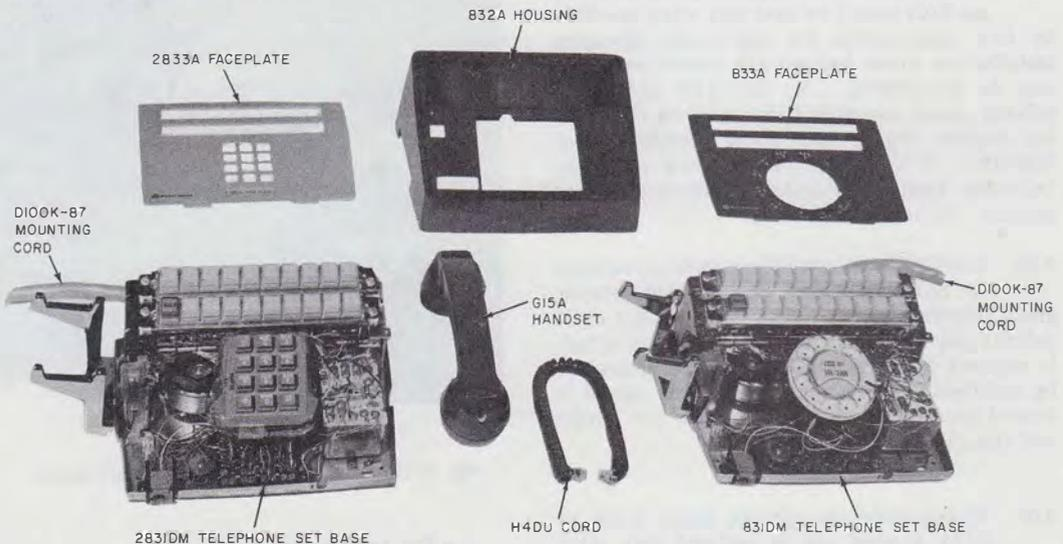

Fig. 2—Station Modular Arrangement, 831DM and 2831DM Telephone Sets
3.01 Assemble the required components to the telephone set base (Fig. 2).